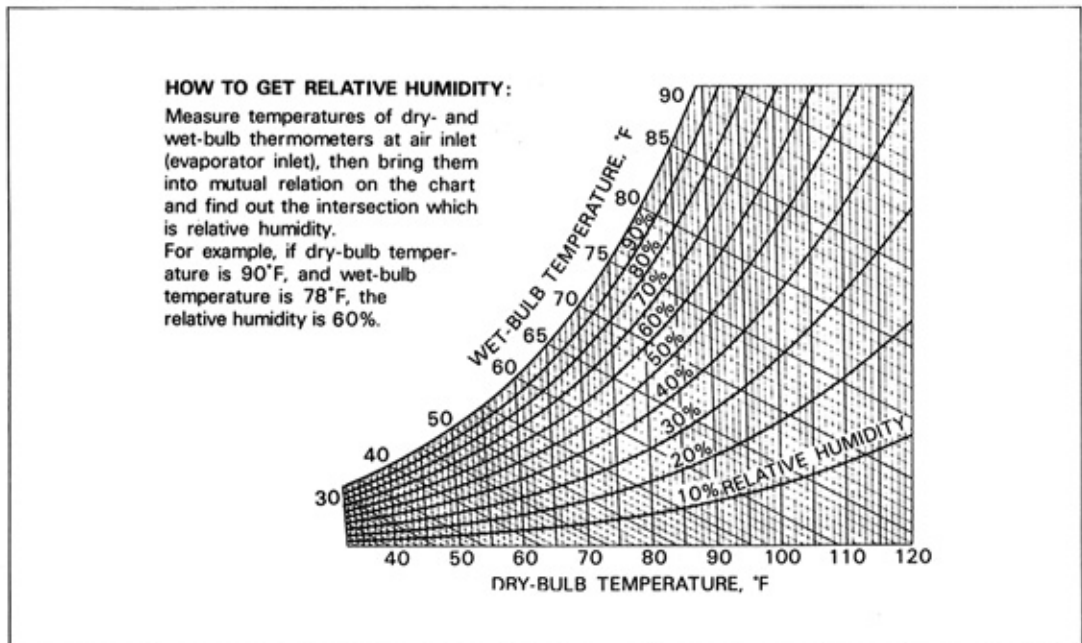
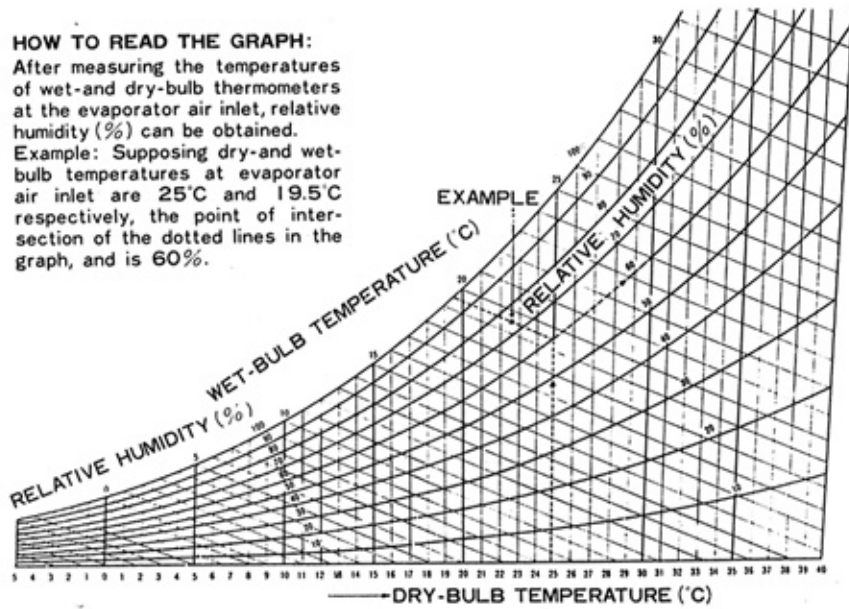

Fig. 94 Psychrometric Chart
Fig. 96 Psychrometric Chart
1. Read the indications of psychrometer at the inlet, and get the relative humidity from psychrometric chart. (See Fig. 94 or Fig. 96).